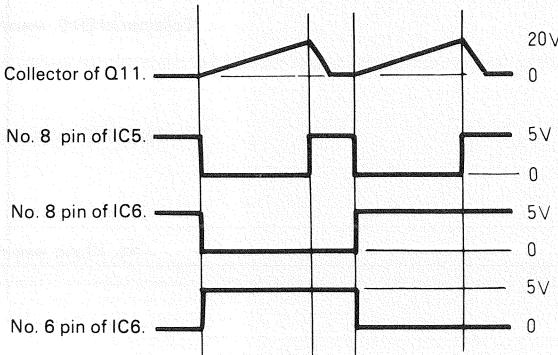

Fig. 7
* For items 4~9, check should be made with a signal applied to CH1 and CH2.
* Refer to Fig. 7.